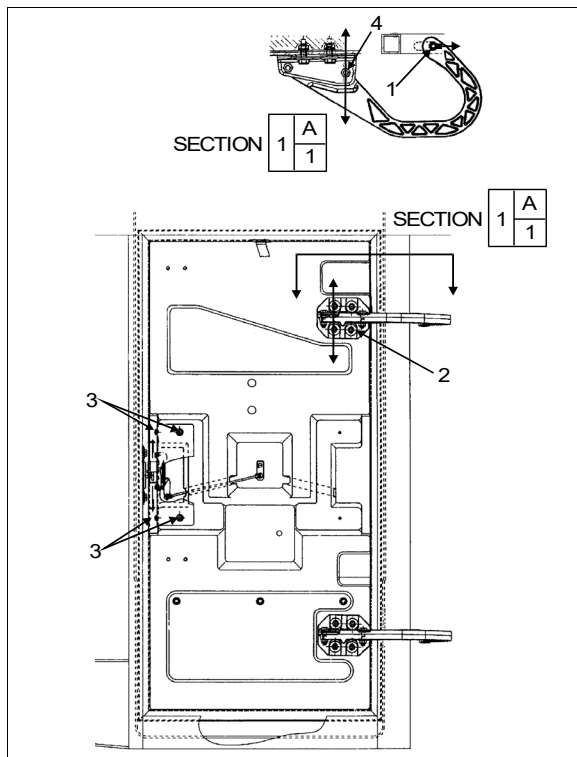

FIGURE 77: MAIN POWER COMP. DOOR 18199
1. Loosen nut (1, Figure 77).
3. Tighten nut (1, Figure 77).
4. Loosen nut (4, Figure 77).
7. Loosen screws (2, Figure 77). Screws allow the door to be shifted "UP or DOWN".